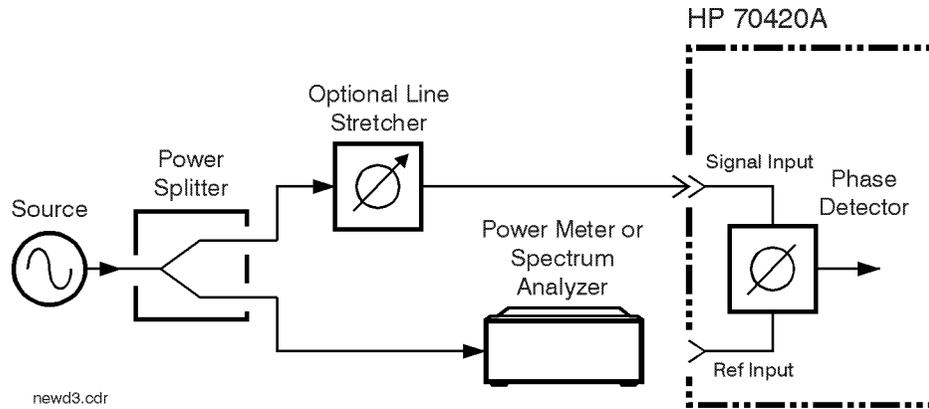

Figure 8-10 *Measuring Power from Splitter*
1. Connect circuit as per Figure 8-10 on page 8-17, and tighten all connections.